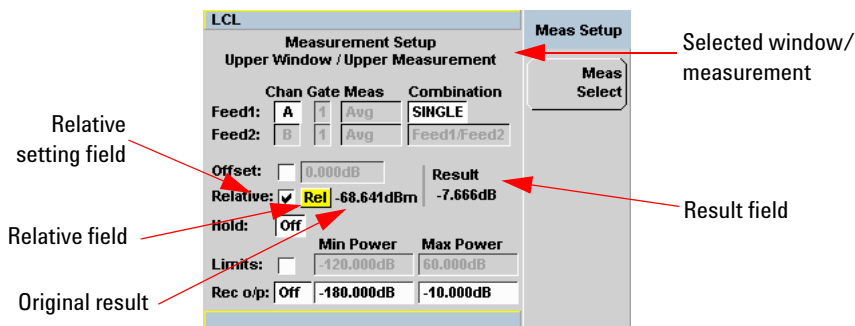

Figure 2-2 Typical relative measurement display
- Figure 2-2** shows a **Measurement Setup** display and the relative measurement items labeled.